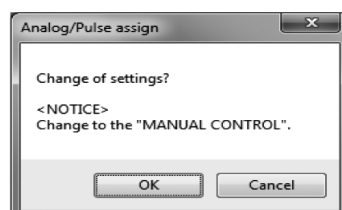

Fig.37
- ④ Click the "OK" button after all settings are completed to display the message box (Fig. 37).